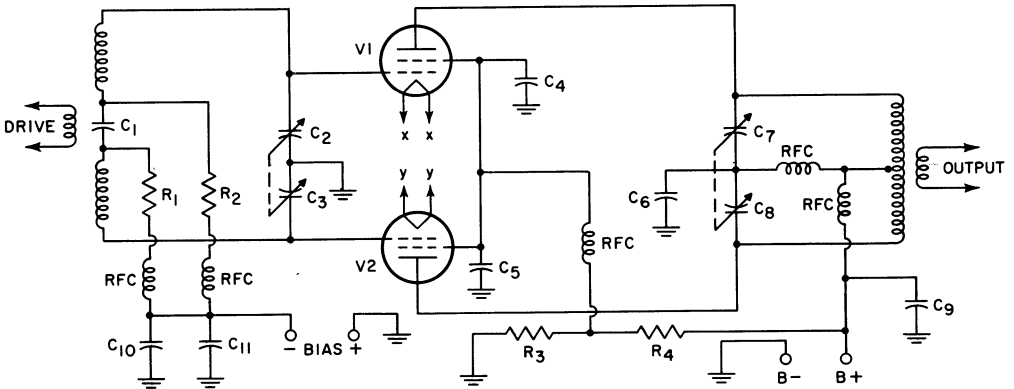

Figure 3. A transmitter final amplifier circuit.
While the transmitter circuit shown in Figure 3 may differ considerably in design from those found in many ham rigs, the measurement techniques and precautions described for it apply to all transmitter amplifiers. In all high-power equipment, checking and adjustment of ac filament voltages is especially important to tube life and performance. Grid-bias voltages are equally important because they have a direct effect upon the screen and plate dissipation of the tube under key-up conditions. The value of the grid-bias voltage also affects drive requirements and sets the operating level (class of operation) of the amplifier. In tetrodes, screen voltages should be carefully adjusted to insure that screen dissipation is kept within proper limits under both key-up and key-down conditions. Plate voltages, as well as plate current, should be determined exactly when the operating level borders on the legal input-power limit or the maximum permissible ratings for the tube type.
In setting up an rf amplifier for the first time, use the VoltOhmyst to make precautionary measurements before applying plate and screen voltages. When checking out a high-power amplifier, such as that shown in Figure 3, use the following procedure: (1) Apply filament and grid-bias voltages. Remove excitation. (2) Set up the VoltOhmyst for ac-voltage measurements. Check the filament voltage of each tube directly at the filament pins (xx) and (yy) by connecting the ground cable to one pin and the ac probe to the other pin at the same tube socket. Filament voltage should be within at least $\pm 5\%$ of the recommended voltage for the tube type. (3) If the voltage measured at either filament is off by more than $\pm 5\%$, measure the line voltage on the primary side of the filament transformers. If line voltage is correct, IR drop in the filament wiring may be responsible. In this event, replace the wiring with heavier conductors. It is also possible that one of the filament transformers may need replacement because of improper turns ratio. (4) Check the fixed grid bias by setting up the VoltOhmyst for "-DC" voltage measurements and read the voltage directly at the grid pins of both tubes. This is a wise precaution, especially in equipment which is not protected against grid-bias failure. If proper voltage is measured for both tubes, the wiring is correct and the fixed-bias supply is functioning properly.
The separate bias-supply leads feeding the two halves of the grid circuit in Figure 3 are provided as a means of checking the balance of the push-pull circuit. Do not attempt to measure total grid voltage at the grid pins when excitation is applied because of the high rf grid voltage. (5) Adjust the grid-tank tuning and the coupling to obtain the required amount of grid current in both grid-circuit legs. Remove excitation. (6) The amplifier can now be checked for plate-current cutoff or, if it is to be operated class AB or B, for the required amount of static plate current. With fixed bias applied and excitation removed, apply plate and screen voltages. Note the plate current flow, if any, and adjust the bias voltage from the supply to give the required cutoff or static current. Remove the high voltage. (7) The plate and screen circuits can now be checked with excitation applied and with the amplifier under dummy load. In circuits which employ high-perveance tubes, take care to prevent excessive plate and screen current flow while tuning. Unless dial settings of plate-tank resonant points are first established by